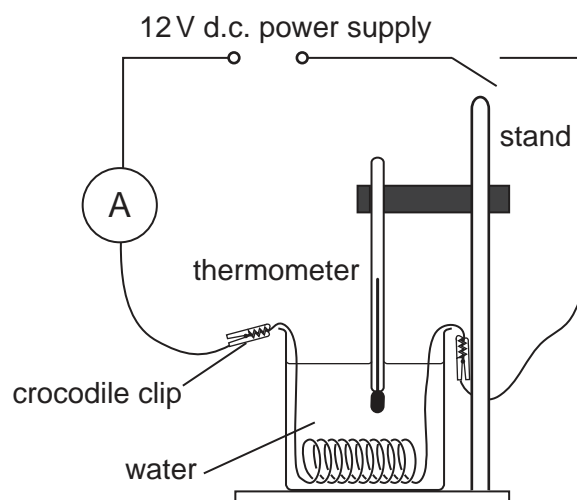

Fig. 3.1
- (ii) The Supervisor should set up the apparatus as shown in Fig. 3.1.
- (iv) At the changeover, the Supervisor should check that the apparatus is still set up as shown in Fig. 3.1, with the switch open and the turns of the coil not touching. The beaker should be emptied.